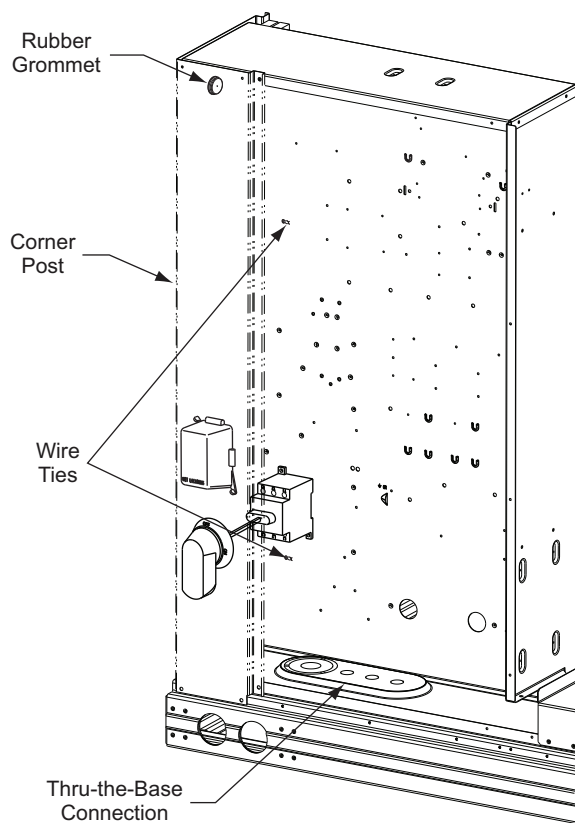

Fig. 44 — Field Control Wiring Raceway
The 50GEQ unit requires an external temperature control device. This device can be a thermostat (field-supplied) or a SystemVu™ controller (available as factory-installed option for use on a Carrier Comfort Network® or as a stand-alone control). All field added wire must comply with UL and local NEC standards. See Unit Without Thru-Base Connection Kit on page 27 and use routing path shown in Fig. 44 to help with compliance as needed.
Correctly rated low voltage wire can be routed through the rubber grommet located on the corner post adjacent to the control box access panel. Route wire through the grommet and then route the wire behind the corner post utilizing the factory provided wire ties secured to the control box. This will ensure separation of the field low voltage wire and the high voltage circuit. Route the low voltage wire to the unit control board. See Fig. 44.
2. Feed wires through the raceway built into the corner post (see Fig. 44) to the 24 v barrier located on the left side of the control box. The raceway provides the UL-required clearance between high-voltage and low-voltage wiring.